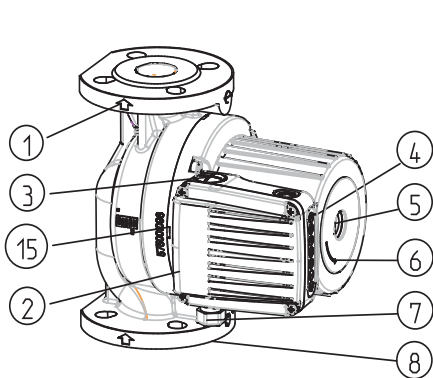
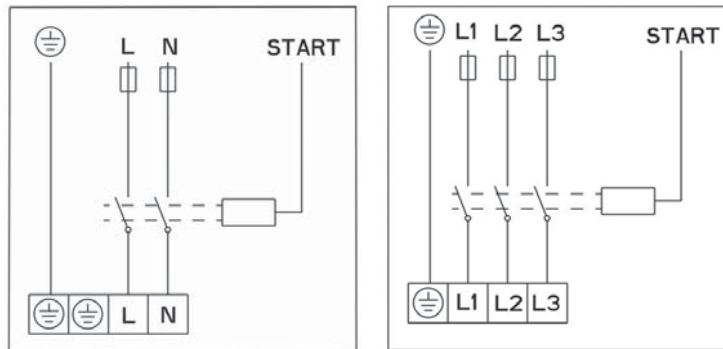

Fig.2
Fig. 4
- Direction of water flow through the pump should match with direction, indicated by an arrow on the pump casing (Fig.2-POS.1).
- The connecting flanges are designed for nominal pressure NP 6/10 (Fig.2 – POS.8).
- SCRF pumps have a single hydraulic casing (Fig.2– POS.8).
The hydraulic casing of the pump can be insulated only to the cleft between the motor and the hydraulic casing. Openings for condensate drainage should remain uncovered and enable the drainage from the stator housing. Similarly, the same openings must be uncovered also in heating systems, when only thermal insulation of hydraulic casing is implemented (Fig. 2, 3, POS. 15). Electric motor casing, on which the openings for condensate drainage are located, under no condition should not be insulated!
The connecting wire has to be connected over a cable entry M20 (Fig.2 – POS.7).
Electrical connections of the pump must be carried out in accordance with the wiring diagram (Fig. 4), attached on the bottom of motor cover. Before doing that unwind the upper cover (Fig. 2 - POS. 2).
In the pumps of types SCRF-SCRFD-SCFRED, the rotor is submerged and provided with special water-lubricated bearings. Before putting the pump into operation, it has to be filled with water and deaerated. Deaerate the pump by unscrewing a screw on the back side of the electric motor (Fig.2-POS.5). Air will flow out through the cleft between the motor shaft and the bearing. When water starts to flow out, close the valves at both the suction and pressure side of the pump. Start the pump and check the direction of shaft rotation. In case of a wrong direction a built-in flash lamp will start to blink with red light.
Each pump is able to cover the areas of three hydraulic characteristics. To achieve this, it has an inbuilt electric motor with three different revolution speeds. For achieving the selected characteristics or speeds ① ② ③, the pump has a push button  (Fig.2-POS. 4), with which we change speeds.
Switch off the pump, close the valve on both pressure and suction sides of the pump, unscrew the vent for deaeration, place the screwdriver (Fig.2-POS.5) in the notch on the shaft and twist as long as friction forces allow. Then screw the vent for deaeration.